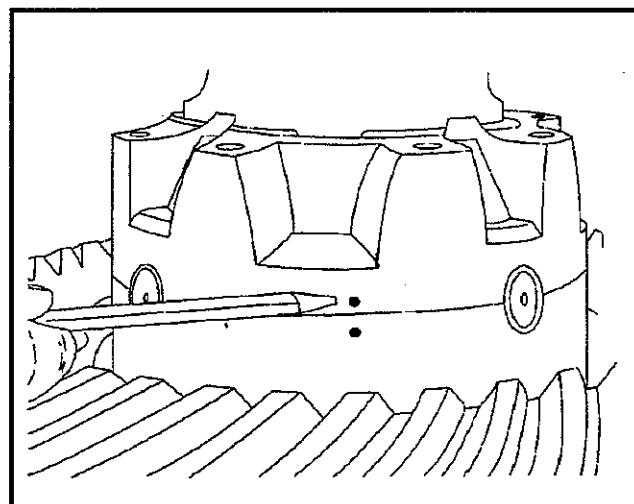

Figure 8—Match Mark Differential Case
19. Match mark differential case halves with punch for correct alignment for re-assembly. (See Figure 8—Match Mark Differential Case.)